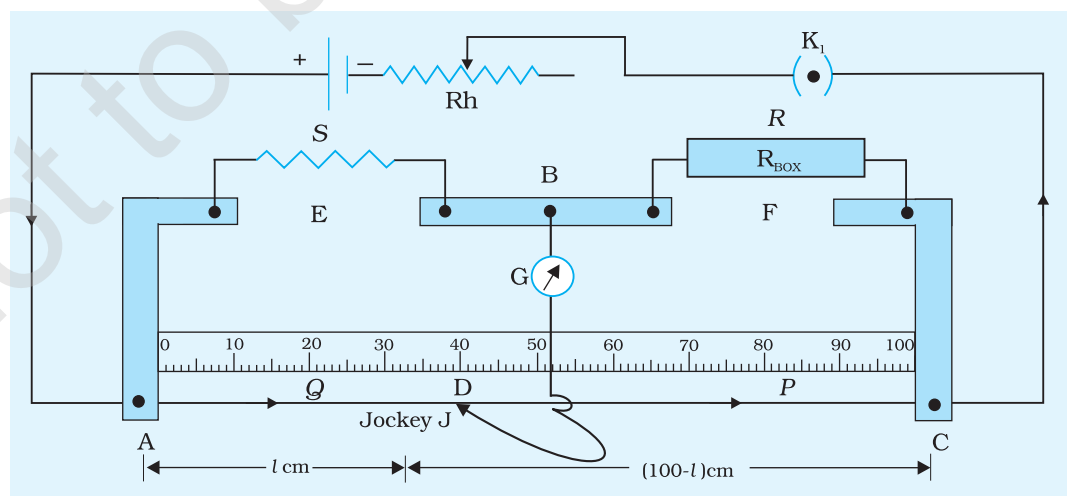

Fig. E 2.1 A metre bridge
It consists of one metre long constantan wire AC of uniform cross-sectional area mounted on a wooden board with a scale (Fig. E 2.1). The two ends of the wire are attached to terminals A and C. Thick metal strips bent at right angles are used to provide two gaps E and F to connect resistors forming a Wheatstone's
The unknown resistance **S** is connected in the gap E and a resistance box (R_{Box}) in gap F of the metre bridge. The terminal B is connected to one terminal of the galvanometer G. The other terminal of the galvanometer is connected to a jockey J which slides along the wire AC. A source of dc current is connected between A and C through a key K_1 so as to provide a constant potential drop along AC (Fig. E 2.1).
3. Set up the circuit as shown in Fig. E 2.1 with unknown resistance wire of known length in gap E.